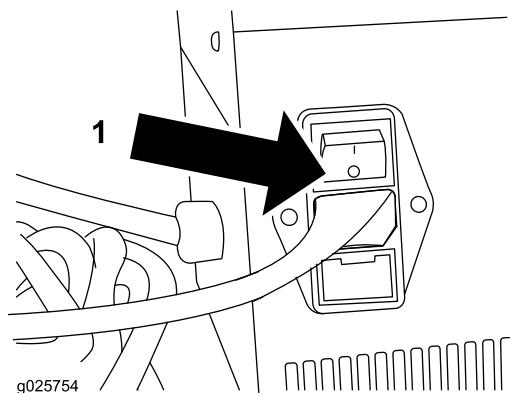

Figure 5
- 4. Verify the charger is turned off (Figure 5).